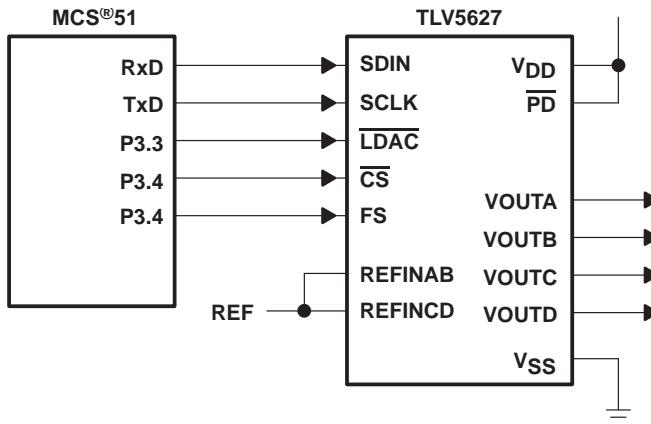

Figure 18. TLV5627 Interfaced with MCS®51
Figure 18 shows an example of how to connect the TLV5627 to an MCS®51 Microcontroller. The serial DAC input data and external control signals are sent via I/O Port 3 of the controller. The serial data is sent on the RxD line, with the serial clock output on the TxD line. Port 3 bits 3, 4, and 5 are configured as outputs to provide the DAC latch update ( $\overline{LDAC}$ ), chip select ( $\overline{CS}$ ) and frame sync (FS) signals for the TLV5627. The active low power down pin ( $\overline{PD}$ ) of the TLV5627 is pulled high to ensure that the DACs are enabled.